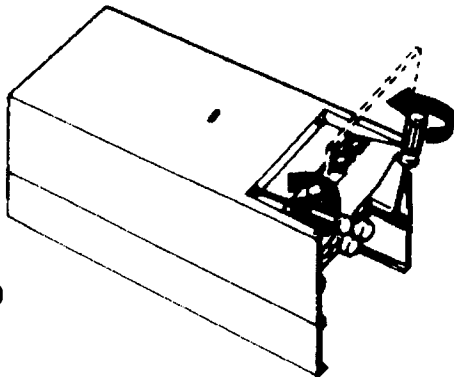

Fig. 10
- 5.3.1 Remove 4 screws securing the lower part of the casing to the case frame. (Fig. 10)